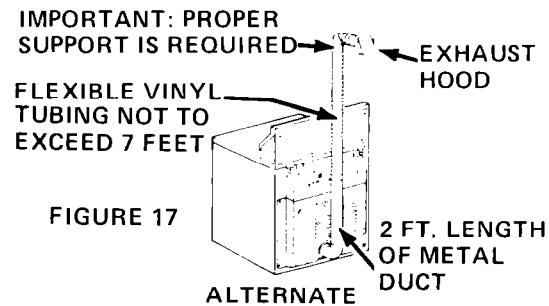

FIGURE 17
12. We do NOT RECOMMEND non-metallic flexible duct. If you use non-metallic flexible duct you must connect a METAL elbow and at least 2 feet of METAL duct to the dryer outlet. The length of the non-metallic flexible duct should not exceed 7 feet, and it must be adequately supported to prevent sagging or kinking. See FIG. 17.